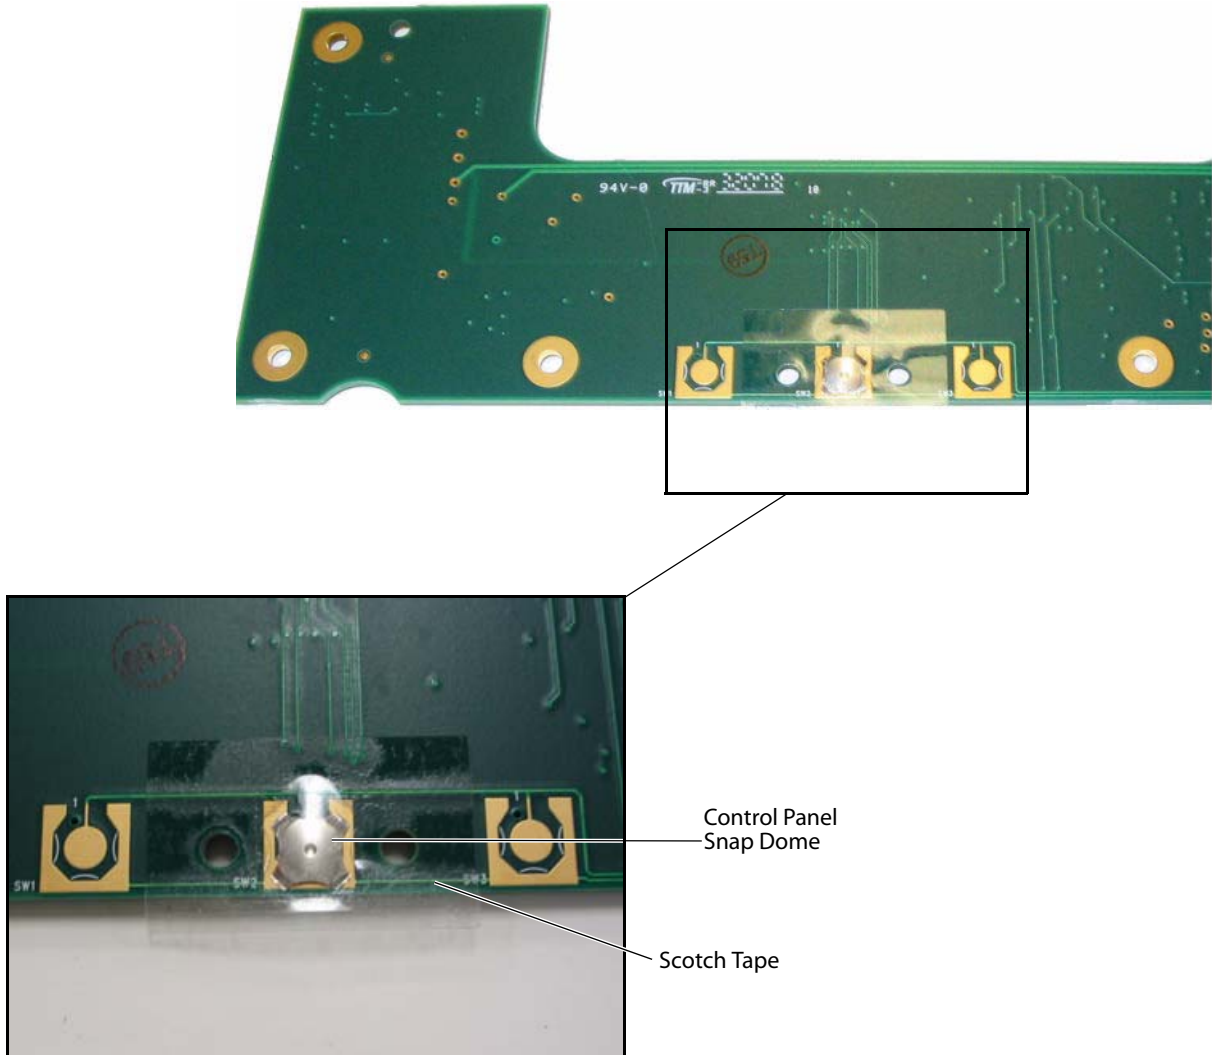

Figure 4.32 Control Panel Snap Dome Installation
- 2 Use Scotch tape to secure the Snap Dome to the center contact on the rear of the Control Panel PCBA as shown in Figure 4.32.